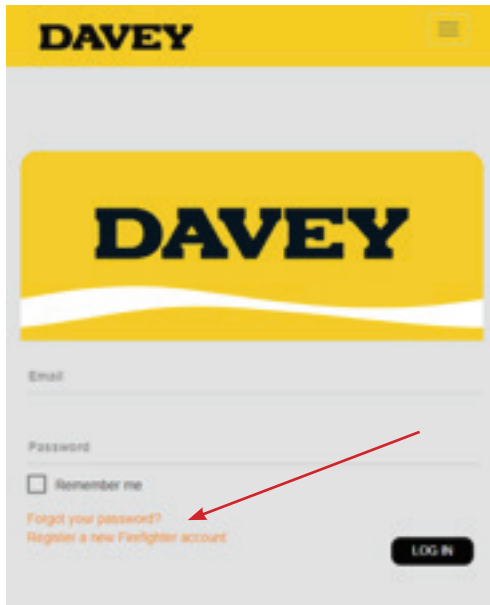

Figure 7.12
- Register your SIM against your account (Figure 7.12):